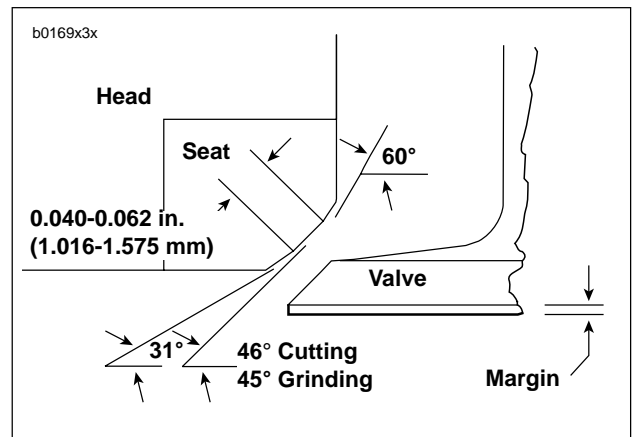

Figure 3-21. Valve Seat Angles
The correct 3-angle valve seat angles are shown in Figure 3-21. Use NEWAY VALVE SEAT CUTTER SET (Part No. HD-35758) to cut the seats. Always grind valves before cutting seats.
3. See Figure 3-21. Check the contact pattern on valve face. It should be 0.040-0.062 in. (1.016-1.575 mm) wide, and its center should be positioned 2/3 of the way toward the outside edge of face.